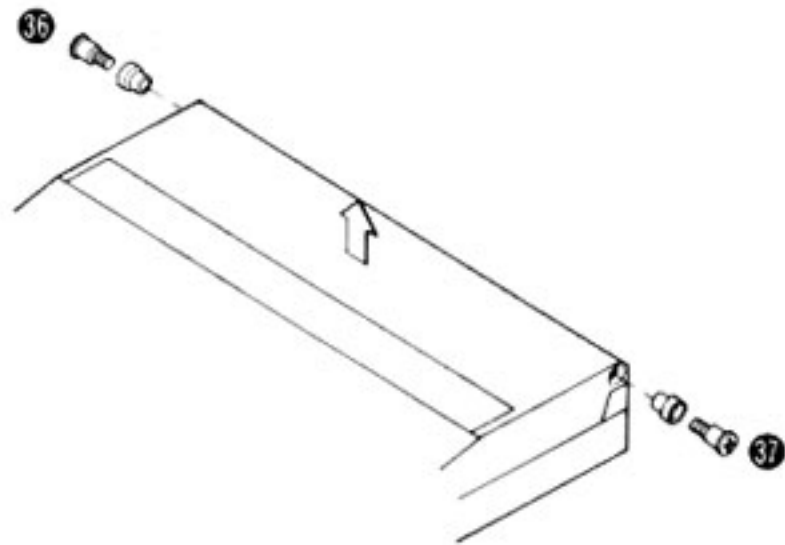
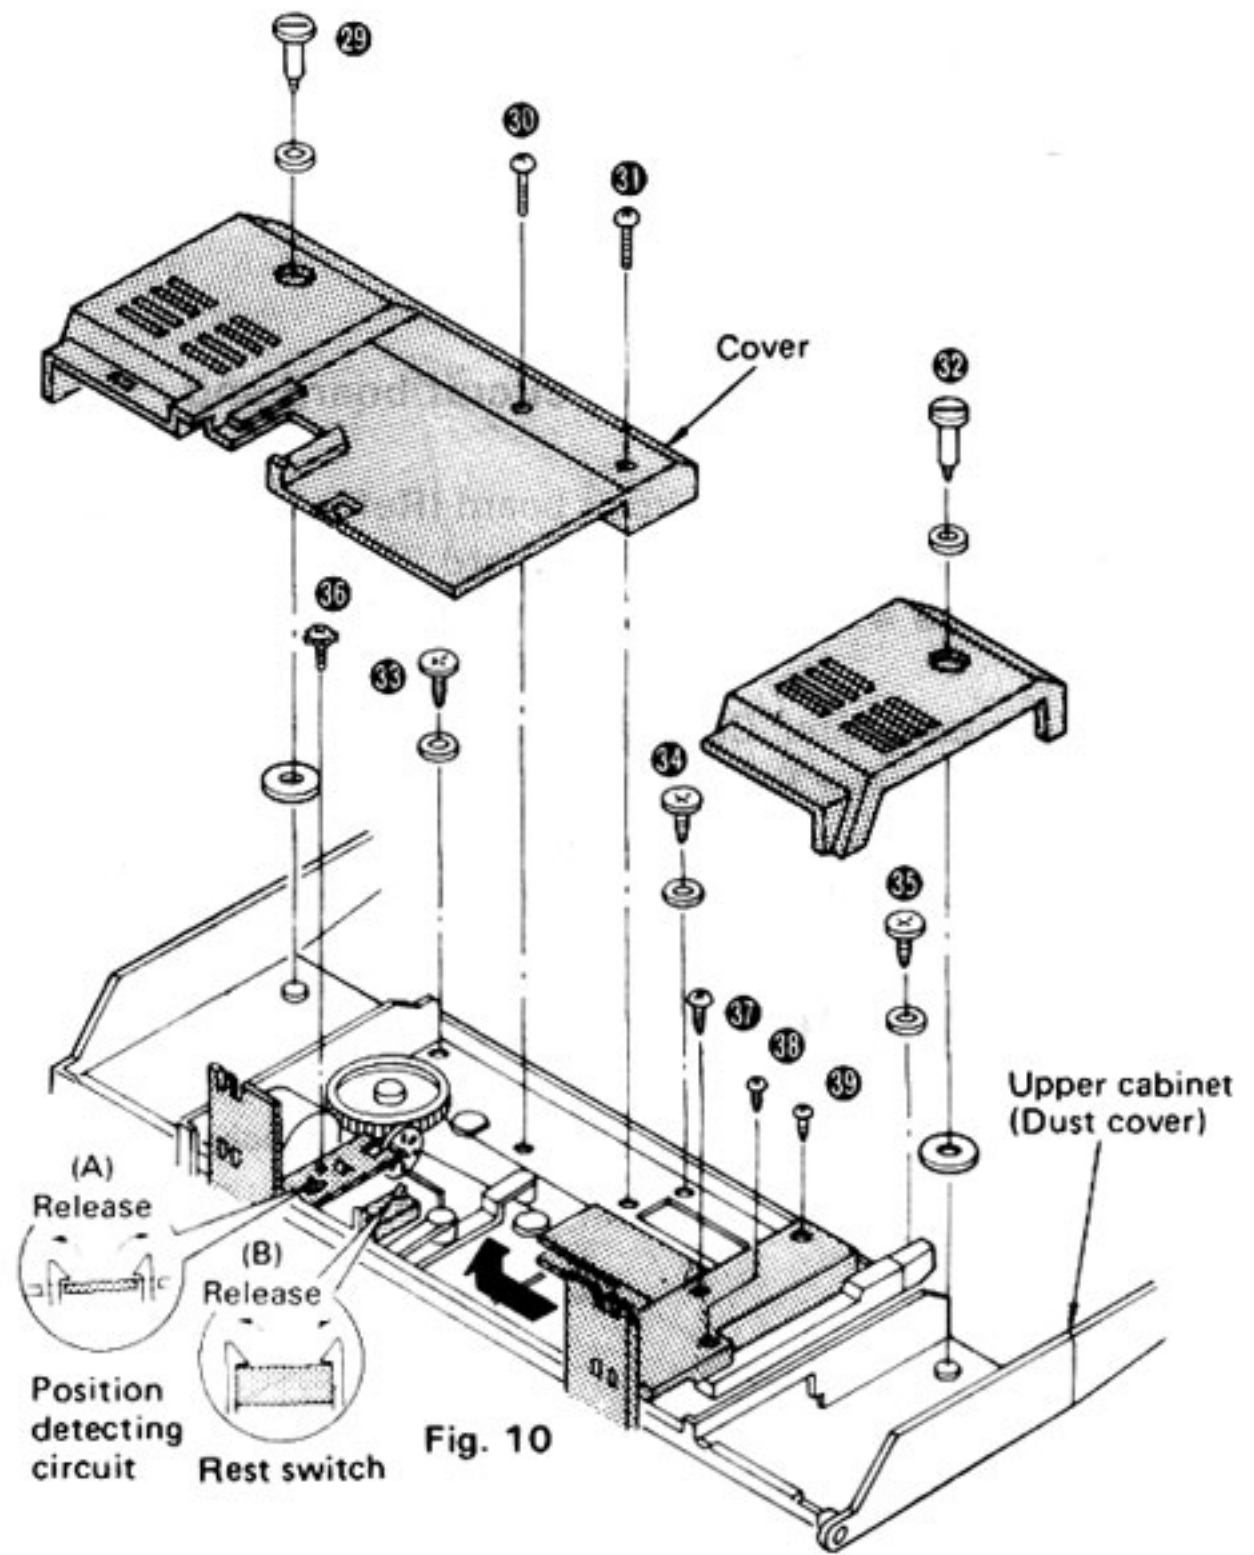

Fig. 11
Fig. 10
2. Remove the 4 setscrews (Fig. 10: 29~32).
3. Remove the 5 dust cover setscrews (Fig. 10: 33~35) and Fig. 11: 36, 37).
2. Remove the tonearm position detecting circuit board setscrew (Fig. 10: 36).
3. Release the each 2 claws and remove the tonearm position detecting circuit board and the rest switch (S 601). (Fig. 10: (A) (B))
2. Remove the tonearm cover setscrew (Fig. 10: 37 ~ 39) and tonearm cover.